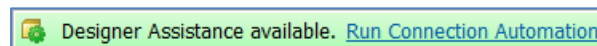

Figure 10: Run Connection Automation
1. Click Run Connection Automation as shown in Figure 10.